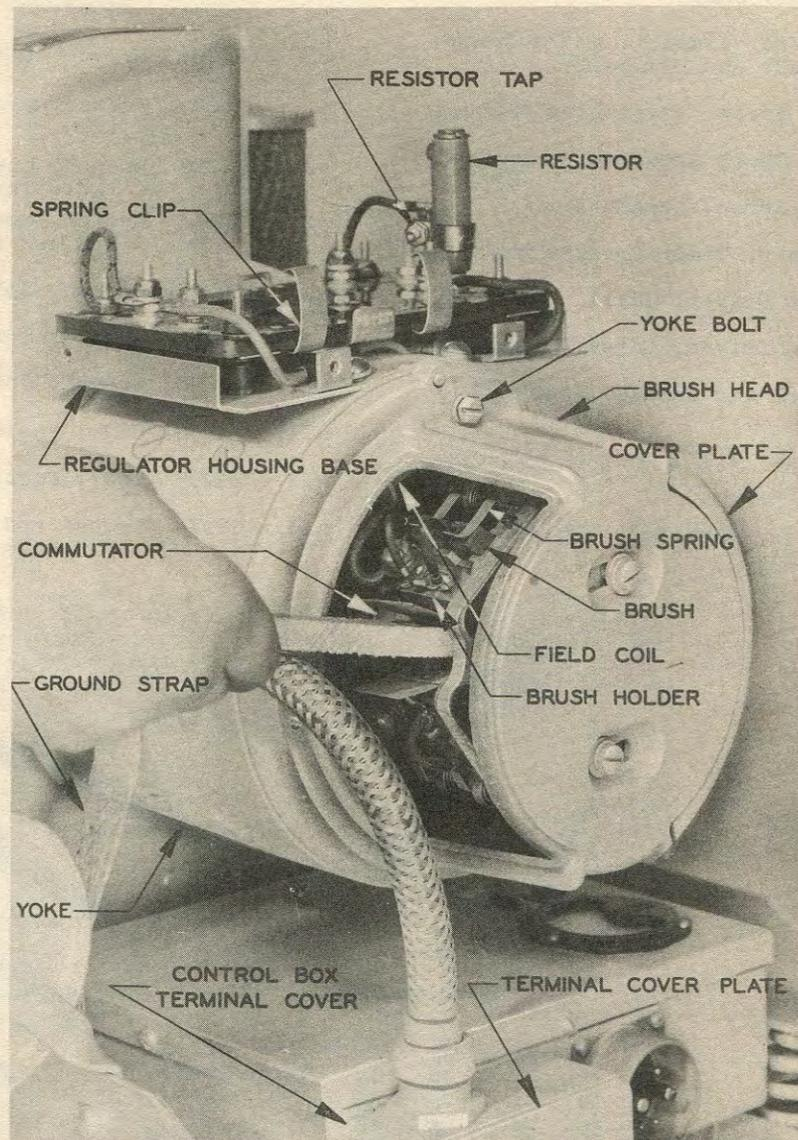

Figure 8 - Commutator Cleaning
(4) Resistor. - If after following preceding instructions paragraph (3), no voltage is registered, check the resistor which is mounted on the voltage regulator assembly (for location see figure 8) by starting unit and shorting out the resistor between its tap and bottom terminal. If voltmeter then registers correct voltage, install new resistor and adjust tap in accordance with the following instructions.
(a) Commutator (Figure 8). - To inspect commutator remove brush head cover plates. The commutator should require no cleaning for several hundred hours of operation. It need be cleaned only when excessively carbonized, when too much arcing occurs, or if scored. To clean commutator, first start engine and then place a strip of very fine sandpaper (00 to 8/0) (not emery) on the commutator and hold down with a stick of wood until commutator is clean.
(b) Brush Replacement (Figure 8). - Brushes should be inspected every 300 hours, and require replacement only if brush spring rides on brush holder. For inspection, remove brush head cover plates. New brushes are formed to shape of commutator to eliminate arcing and to insure perfect electrical contact. In replac-
(c) Brush Springs (Figure 8). - Tension of brush spring should be approximately 17 oz.
1. Dismantling.a. Generator End (Figure 8).(1) To Remove Yoke and Coil Assembly.
(2) To Remove Voltage Regulator (Figure 8). The regulator can be removed by taking out 4 screws holding housing cover to base, lifting off cover, and then releasing 2 spring clips holding regulator to base.
(3) To Remove Brush Head from Yoke. - Disconnect, at brush holder four leads coming from yoke and coil assembly. For removal of brush assembly from brush head, take out the 2 screws in the slots in the face of the brush head.
(4) To Remove Armature. - Take out bolt at end of armature shaft which holds armature to engine crankshaft. If armature does not come free from shaft readily, in place of the armature bolt insert the long armature pin No. S-590-1 and jack screw No. S-394. Turn up screw as far as threads permit. Remove jack screw and insert one short pin No. S-389; repeat operation. Again repeat operation with the remaining two pins successively. Armature will then come free.